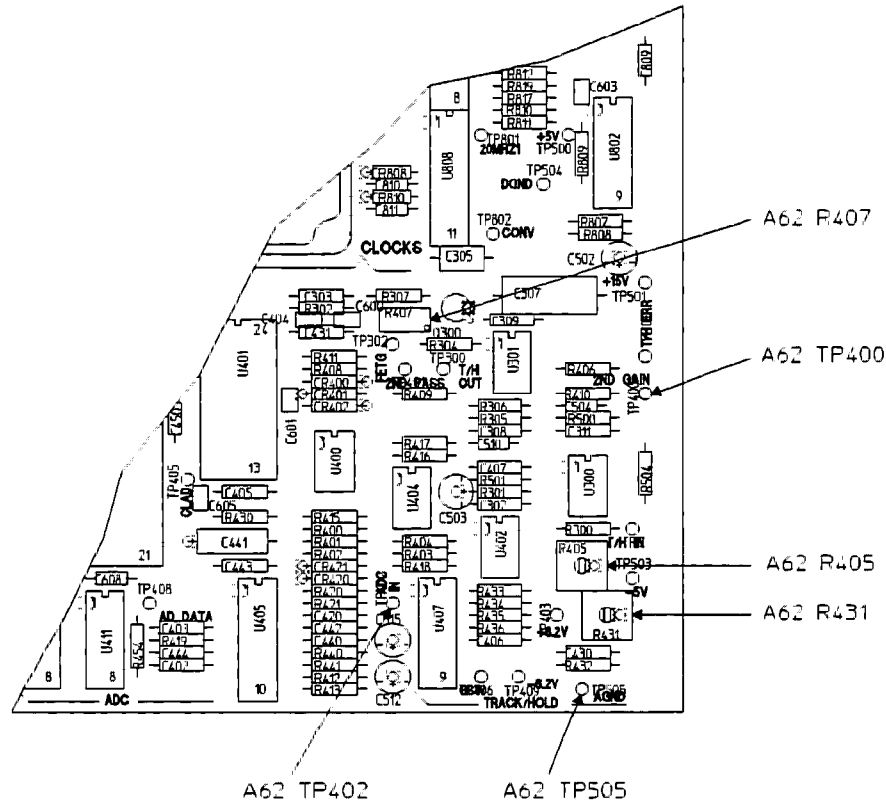

Figure 5-7. A62 ADC/Digital Filter Component Locator
3. Connect the oscilloscope to A62 TP400 (see figure 5-7) using a capacitive load and a 1:1 oscilloscope probe. Connect the probe ground clip to TP 505 (AGND).